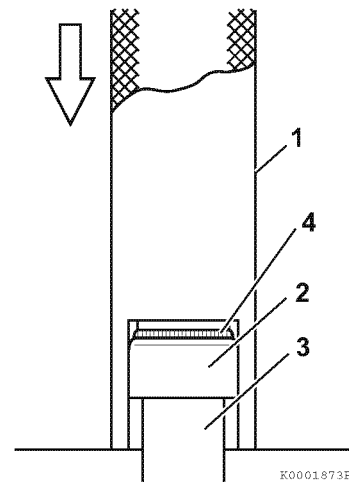

Figure 6-30
The exhaust valve stem seals are different than the intake valve stem seals and can be identified by either the paint marks on the outside of the seals or by the color of the seal spring (4, **Figure 6-30**). Ensure they are installed in the correct locations.
1. Oil the lip of the valve stem seal (2, **Figure 6-30**). Using the valve stem seal installation tool (1, **Figure 6-30**), install a new valve stem seal on each of the valve guides (3, **Figure 6-30**).